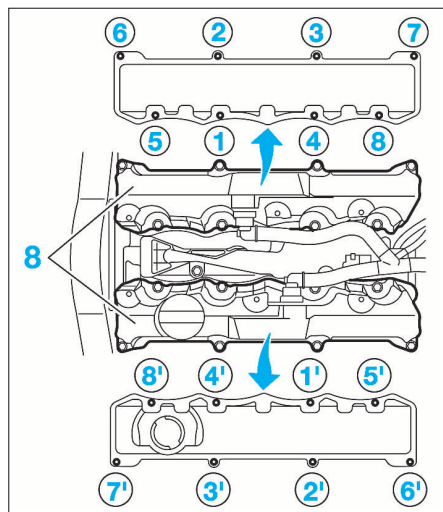

FIG. 34
- Reposer les couvre-culasses (8) (Fig.34).